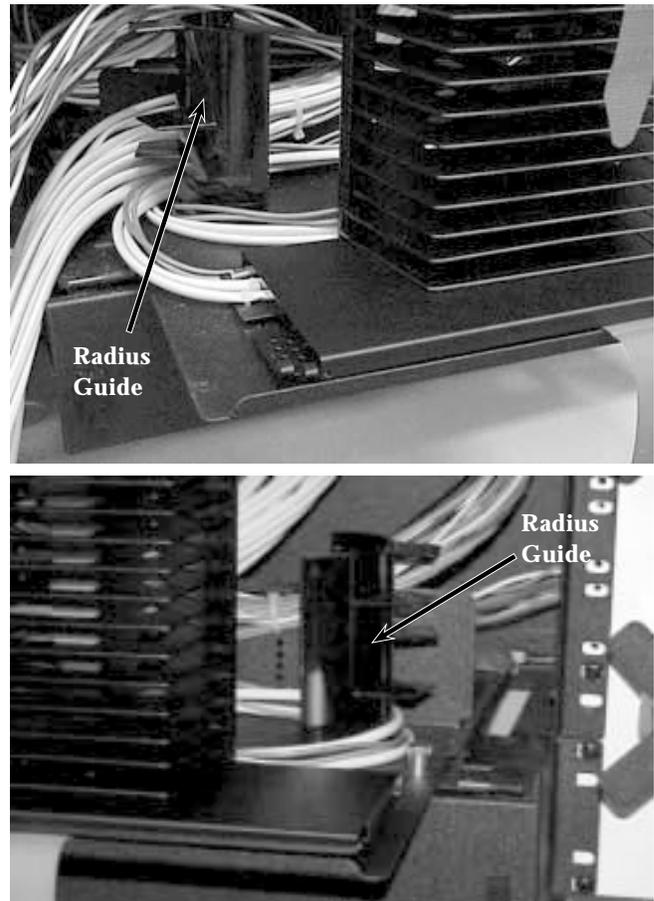

Figure 10
- Step 2** Route fiber around the radius guides on the splice shelf (Figure 10).